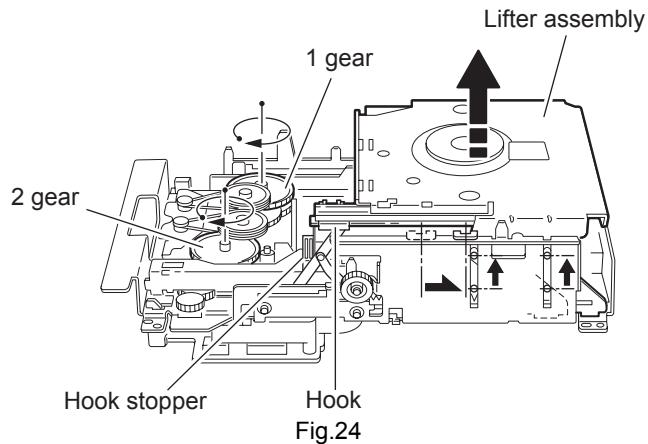

Fig.24
- Prior to performing the following procedure, remove the tray assembly and side (L)/ side (R) assembly.
- (1) From top of the body, turn the 1 gear clockwise to move the lifter assembly upward as shown in Fig.24.
- (2) From top of the body, turn the 2 gear clockwise to move the hook toward the front until it stops.
- (3) Move the hook stopper in the direction of the arrow while pushing the tab **r** of the hook stopper to unlock it. Release four joints **s** to detach from the rack holder. Release the rod from part **t**.
- (4) Turn the 1 gear clockwise again to move the lifter assembly upward.
- (5) Remove the lifter assembly from the body upward at position **u** where the four pins on the right and left sides of the lifter assembly fit to the notches of the **v**. Move the lifter assembly toward the front and release from the hook.